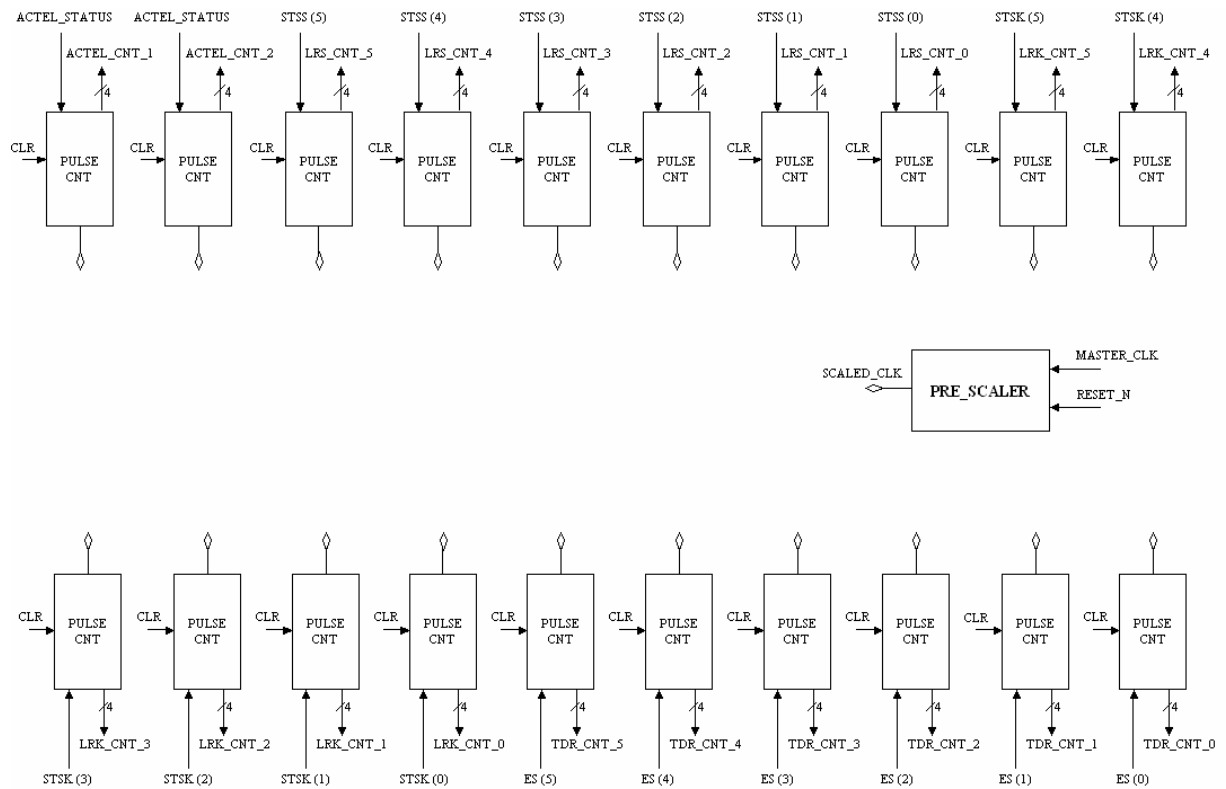

Figure 7
- TOP_COUNTERS: it is a set of counters, as shown in the Fig. 7.